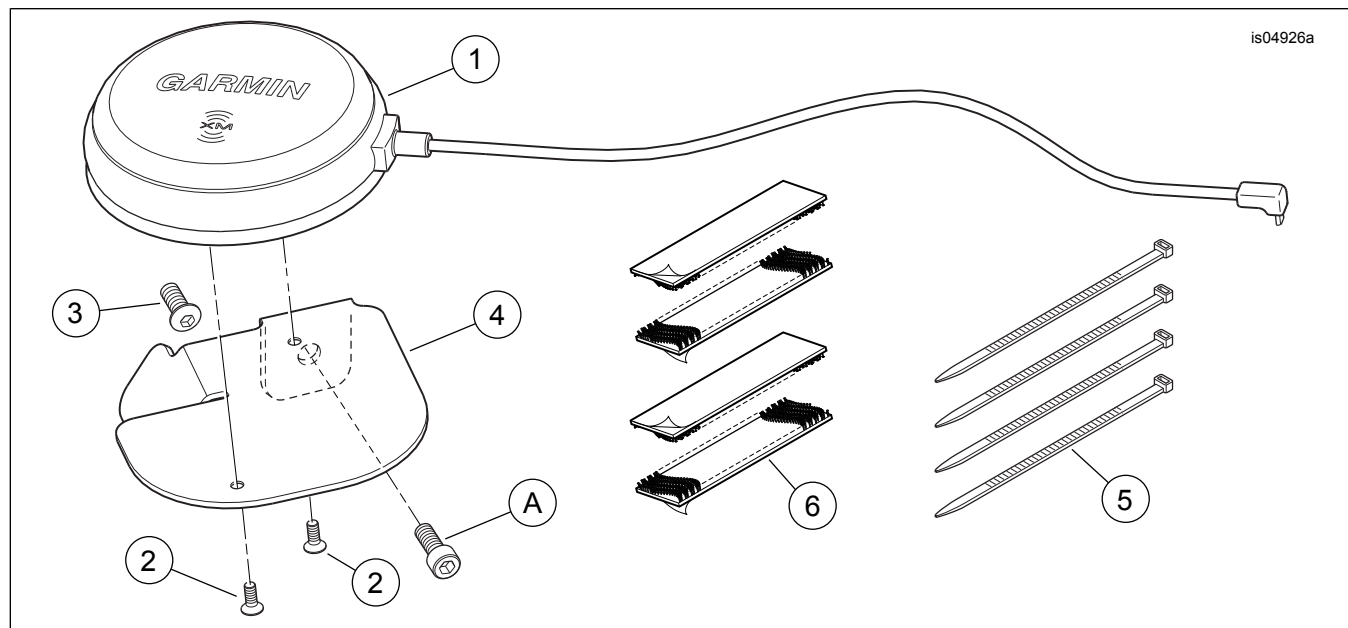

Figure 3. Service Parts, XM Satellite Radio Antenna
See Figure 3 and Table 1.
1. See Figure 3. Obtain the XM satellite radio antenna (1), the antenna mounting bracket (4) and two flat head screws (2) from the kit. Position the antenna over the mounting bracket in the orientation shown.